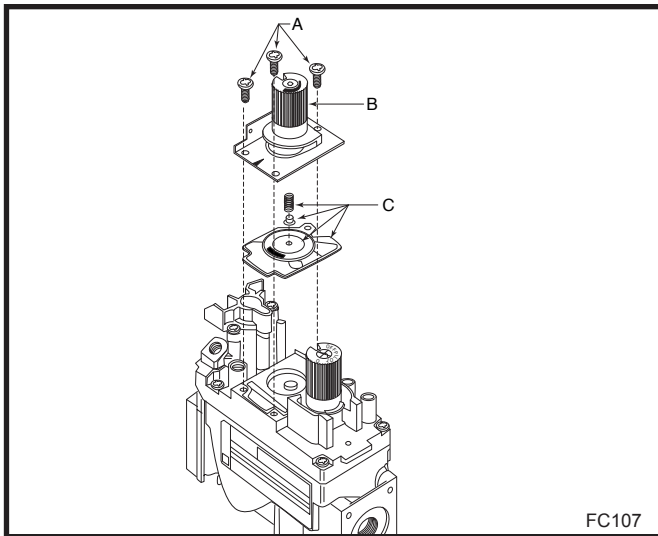

Fig. 28 Remove mounting screws, pressure regulator tower and spring and diaphragm assembly.
1. Using TORX T20 bit, remove and discard the three (3) pressure regulator mounting screws (A), pressure regulator tower (B) and the spring and diaphragm assembly (C). (Fig. 28)